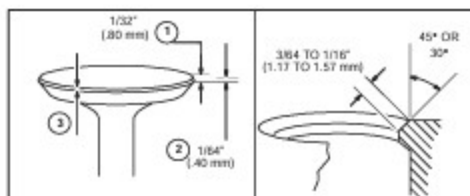

Fig. 8
Valve seat width should be 3/64 to 1/16" (1.17 to 1.57 mm), Fig. 8. If the seat is wider, a narrowing cutter should be used. If valve face or seat are badly burned, the burned part should be replaced. Replace valve if margin (3) is damaged, 1/64" (.40 mm) or less (2). Acceptable wear (1), Fig. 8.